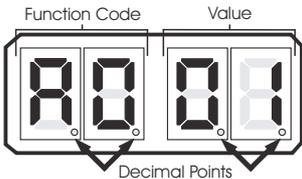

Figure 5-3: Display LED Designations
- A decimal point indicator is located on the bottom right corner of each Display LED. (Figure 5-3: Display LED Designations)